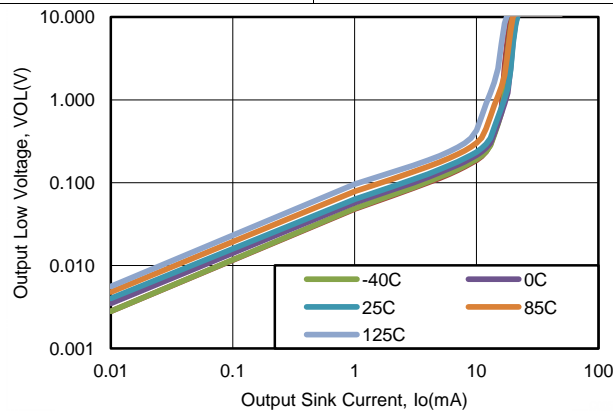

Figure 3. Output Low Voltage vs Output Current (I_{OL})
The output consists of an open drain NPN (pull-down or low side) transistor. The output NPN will sink current when the positive input voltage is higher than the negative input voltage and the offset voltage. The V_{OL} is resistive and will scale with the output current. Please see Figure 3 for V_{OL} values with respect to the output current.
Output current is determined by the load/pull-up resistance and logic/pull-up voltage. The output current will produce a output low voltage (V_{OL}) from the comparator. In which V_{OL} is proportional to the output current. Use Figure 3 to determine V_{OL} based on the output current.
- R_{CE} can be determine by taking the slope of Figure 3 in it's linear region at the desired temperature, or by dividing the V_{OL} by I_{out}